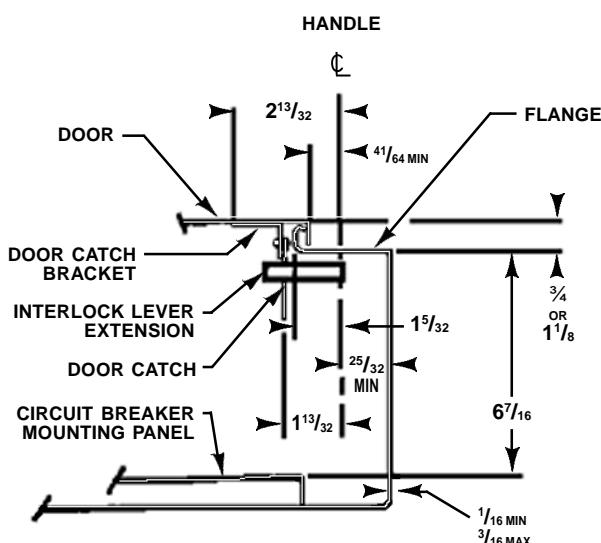

Fig. 2
- b. Prepare the mounting holes in the enclosure flange and in the enclosure panel (See Figure 1, Table, and Figure 2).